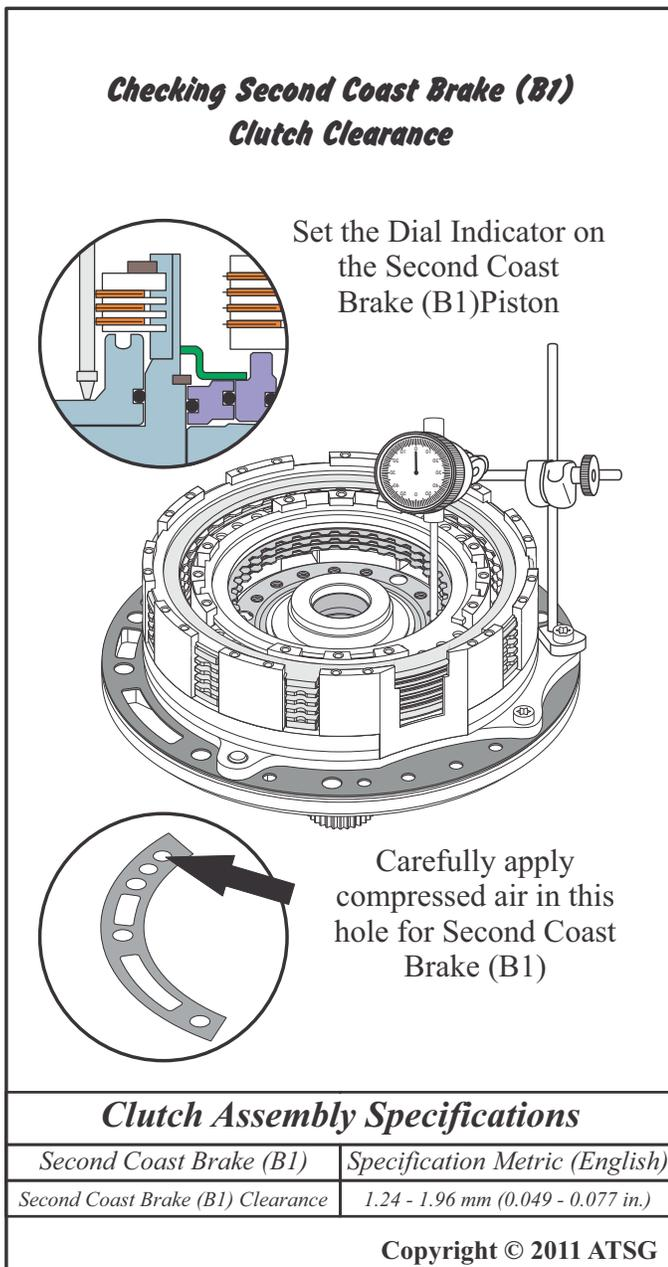

Figure 113
- 65. Using SST J 45166 and J 45200 or other adequate dial indicator, set the dial indicator base onto the pump body assembly where the attaching bolt was omitted as shown in Figure 113.
- 66. Put the dial indicator on the Second Coast Brake (B1) piston and set the dial indicator to a zero reading as shown in Figure 113.
- 67. Carefully apply a small amount of compressed air to the Second Coast Brake (B1) passage as shown in Figure 113 and measure piston travel (*make certain the piston travels smoothly*).